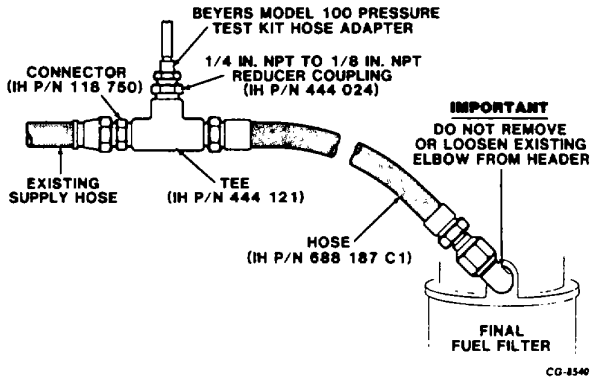

Figure 40. - Measuring Transfer Pump Pressure
2. Install tee fitting (IH P/N 444 121) with reducer coupling (IH P/N 444 024) and hose assembly (IH P/N 688 187 C1) with 5/8-18 45° flare swivel connectors at each end between elbow and supply hose as shown in Figure 40.
3. Connect pressure gauge at reducer as shown in Figure 40.